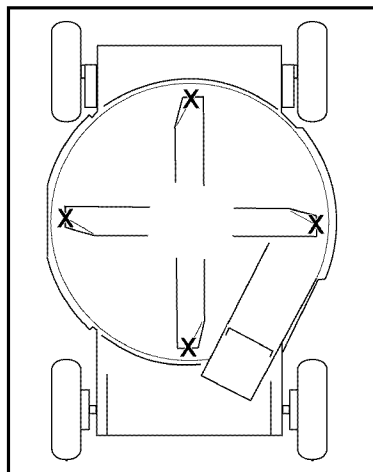
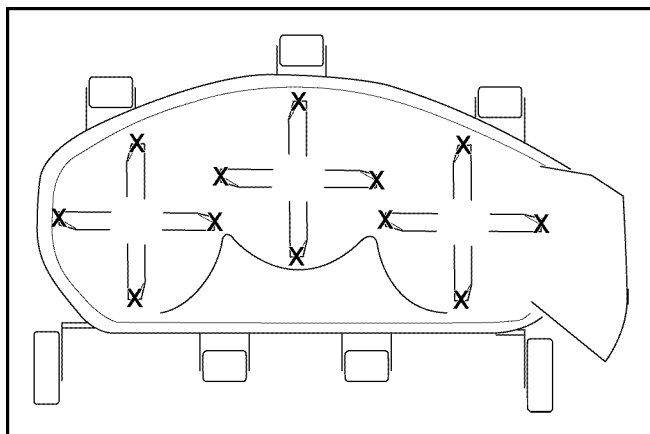

Figure 14
Figure 15
2. Make a simple sketch of the mower housing to use for recording measurements. Show the outline of the mower and the blade(s). Leave a space to write in your measurements. Each blade must be measured at the 12, 3, 6, and 9 o'clock positions (Figure 14 and Figure 15).